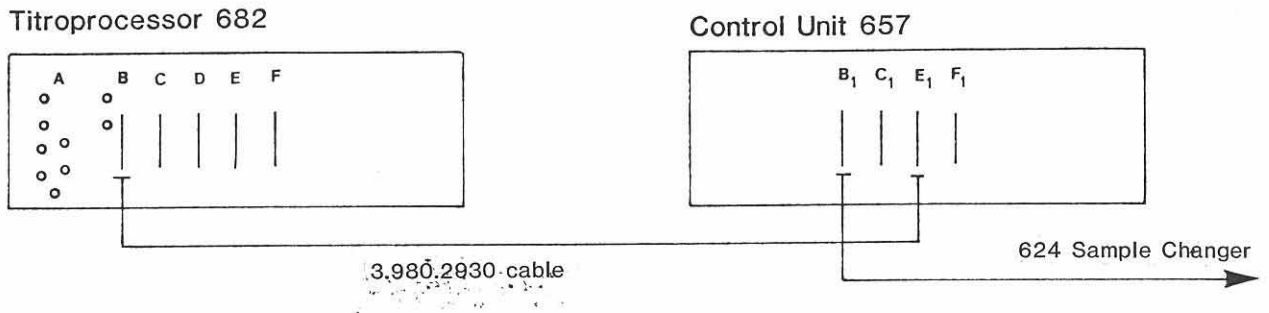

Fig. 4.2
3.540.2191 interface is available for the connection of 624 Sample Changer. The interface is inserted in slot B of 682 Titroprocessor and the Sample Changer is connected according to Fig. 4.2.